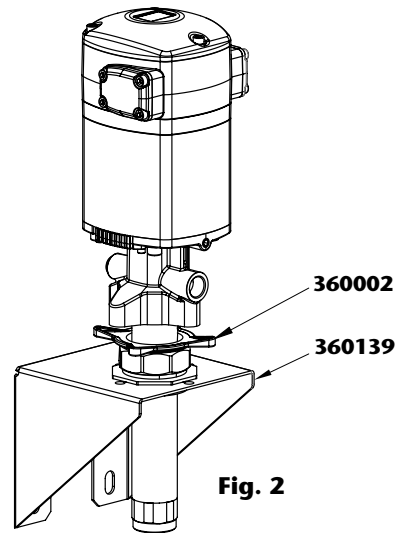

Fig. 2
- Wall mounting with bung adapter. Insert the pump through the wall bracket 360139 and attach it with the bung adapter 360002 (fig. 2).